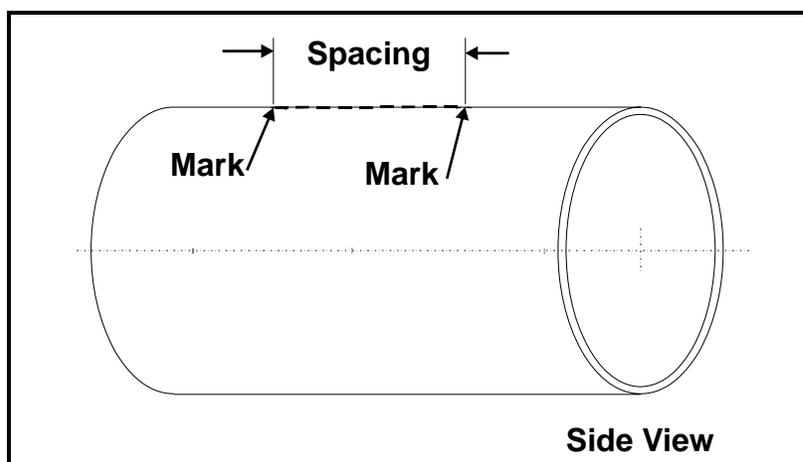

Figure 10: Marks for Transducer Spacing on Inscribed Line
5. Make two marks (shown in Figure 10 below) on the line equal to the transducer spacing distance S , as calculated by the meter.